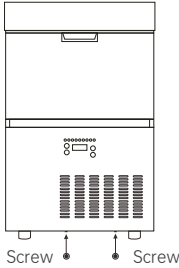

Figure 1
2. Use a screwdriver to remove the two screws at the bottom of the front panel (Figure 1).